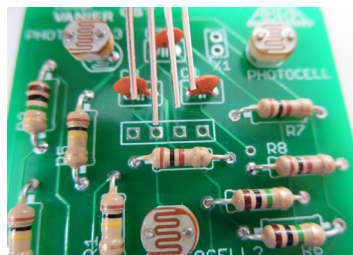

Fig.7
7. Install the LED as shown in fig. 7.